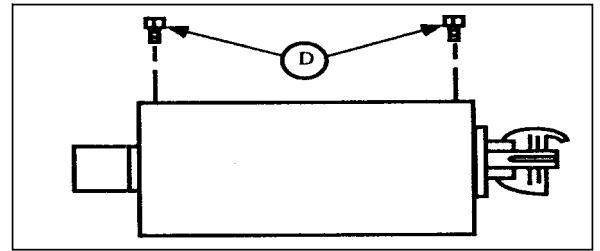

Figure 4-4
4. Remove screws (D) from top of burner housing and pull out burner (Figure 4-4).